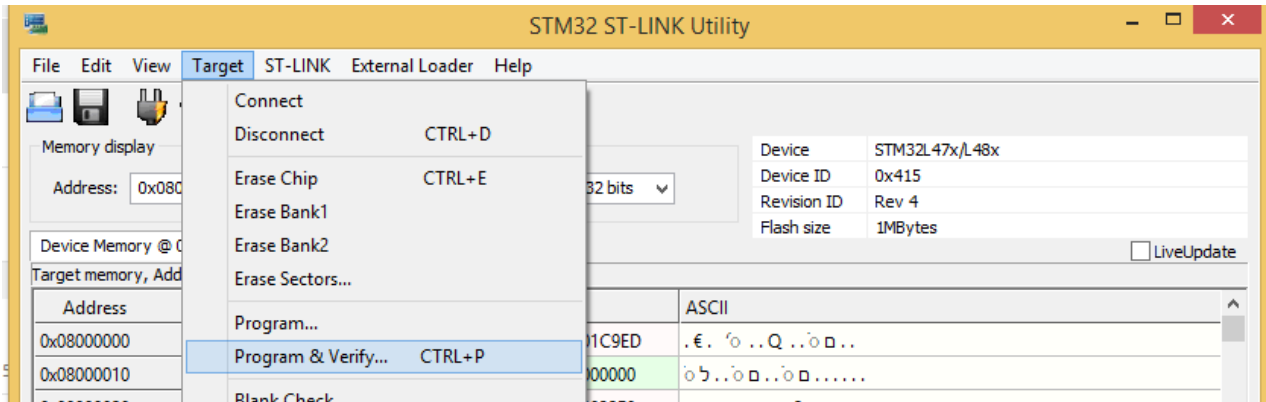

Figure 38: Program & Verify in STM32 ST-Link Utility
- Click on “Target->Program & Verify”. See figure 38.